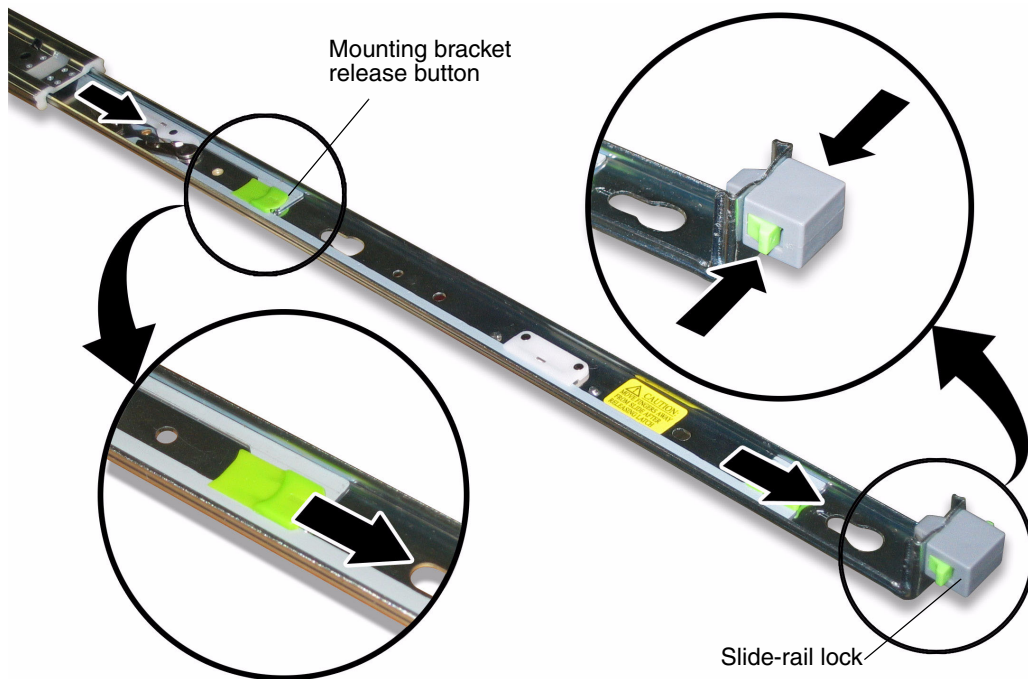

FIGURE 1-1 Disassembling the Slide-Rail Before Installation
2. **Locate the slide-rail lock at the front of one of the slide-rail assemblies, as shown in FIGURE 1-1.**
3. **Squeeze and hold the tabs at the top and bottom of the lock while you pull the mounting bracket out of the slide-rail assembly, until it reaches the stop. See FIGURE 1-1.**
4. **Pull the mounting bracket release button toward the front of the mounting bracket, as shown in FIGURE 1-1, and simultaneously withdraw the mounting bracket from the slide-rail assembly.**